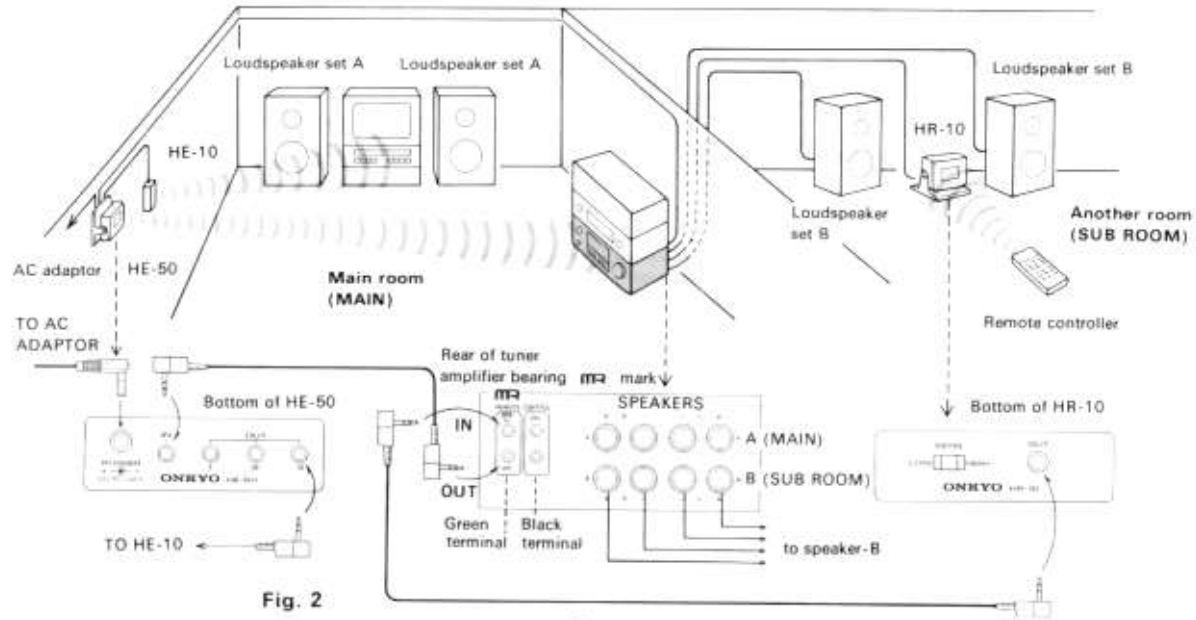

Fig. 2
- A connection example using the HR-10 and HE-50 (or HE-50AC) to control components in the main room from another room is shown in Fig. 2.